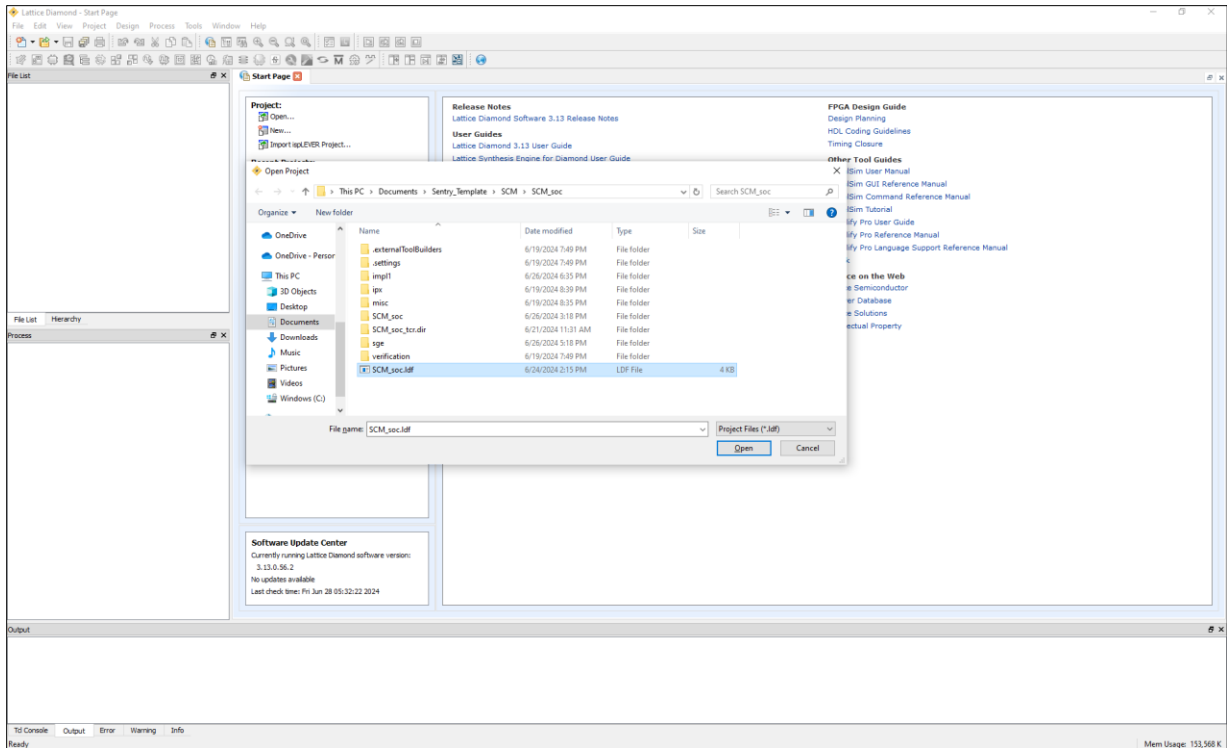

Figure 5.5. Open SCM_soc in Lattice Diamond Software
1. Open the SCM_soc project file (SCM_soc.lbf) in the Lattice Diamond software (Figure 5.5).